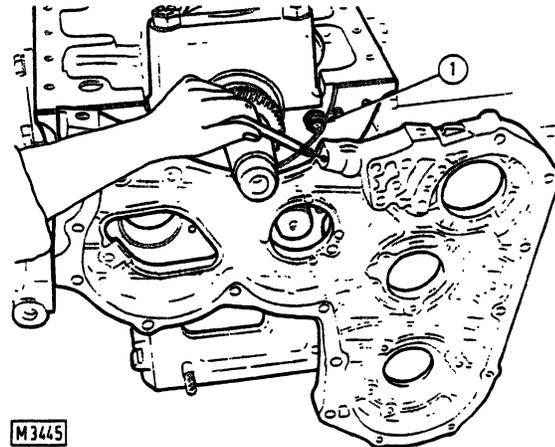
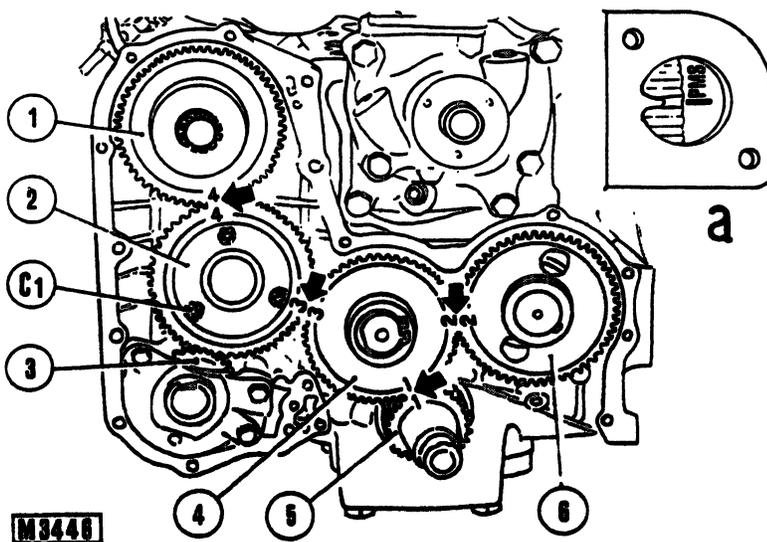

Fig. 15 - Cleaning the timing housing lubrication orifice.
Fig. 16 - Timing gear alignment.
The timing gears are contained in a special housing (Fig. 16). Lubrication is by means of a gallery in the housing which, in case of overhaul, should be checked and cleaned with a wire, as shown in Fig. 15.
- for camshaft drive gear (6, Fig. 16) follow instructions in section 3.1.2.
- For idler gear (4, Fig. 16) first remove circlip and relevant washer.
- for injection pump idler gear (2, Fig. 16) remove complete unit by removing cover (6, Fig. 22) and circlip (7), then remove screws (C₁).